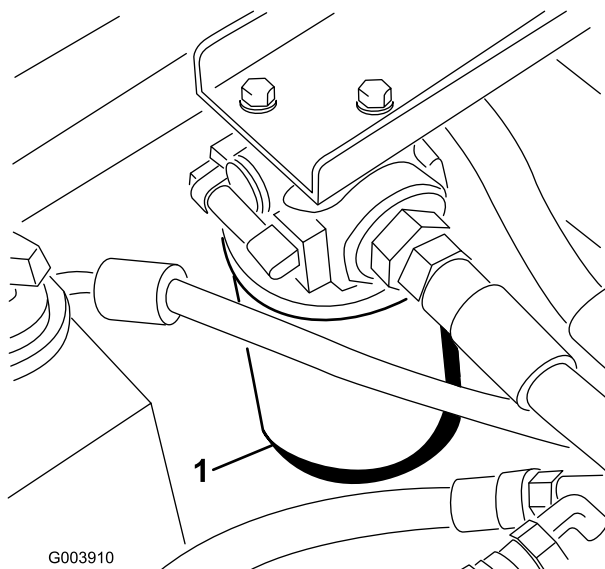

Figure 72
2. Clean the area around the filter mounting area (Figure 72) and place drain pan under filter.